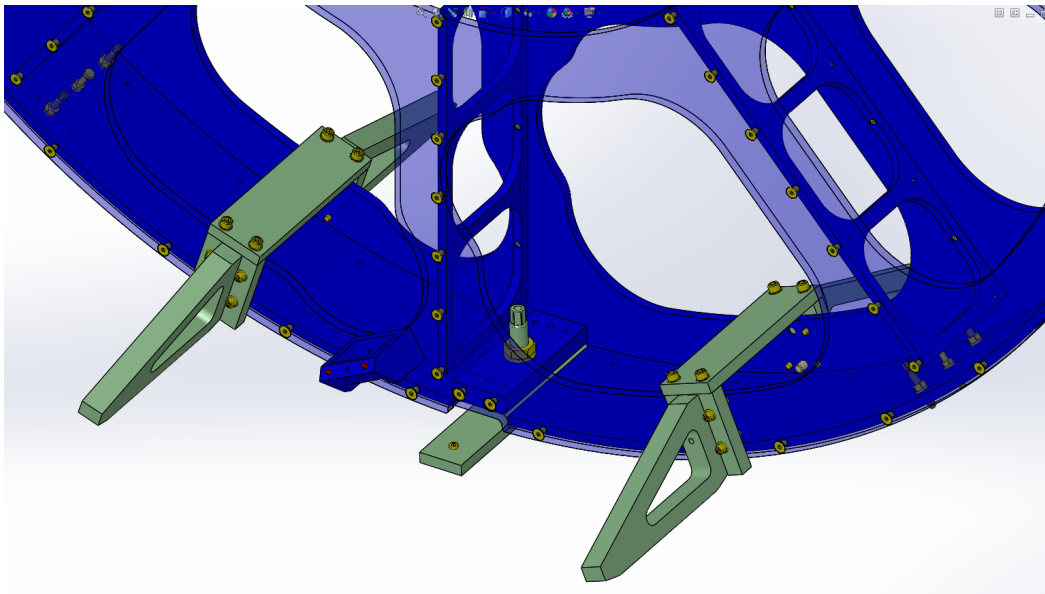

Figure 7: Bottom Support Foot (D1300229) and Jack Screw (D1300228) Assembly.
2. install Support Foot (D1300229) at bottom of Periscope Assembly (Figure 7). Requires 9/16" and 1-1/8" open-end wrenches.
3. rotate bottom Jack Screw (D1300228, Figure 7) to put light pressure on bottom Support Foot